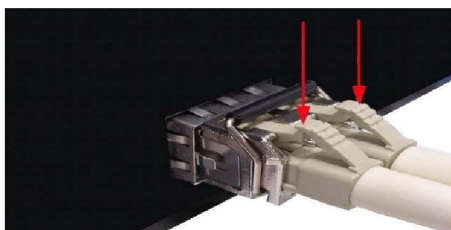

Figure 2.8 - Remove LC Connector
1. Press the upper side of the LC connector from the transceiver and pull it out to release as shown below in *Figure 2.8*.